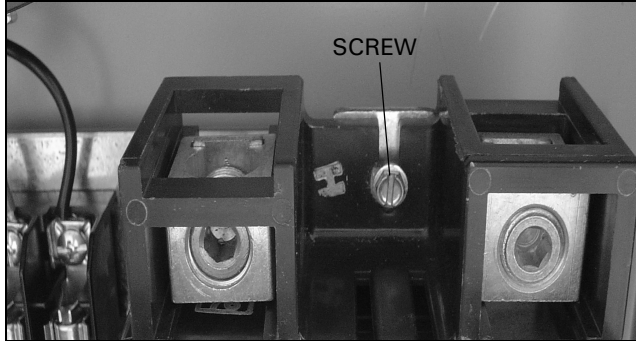

Figure 56. Location of the Top Service Entrance Breaker Mounting Screw.
Step 4: Remove the screw securing the top of the service entrance breaker to the mounting bracket using a blade screwdriver or 0.25 in. nut driver. Remove the service entrance breaker from the ATS (see Figure 56).
- Step 6:** Loosely secure the top of the service entrance breaker to the mounting bracket using the hardware provided (see Figure 56).